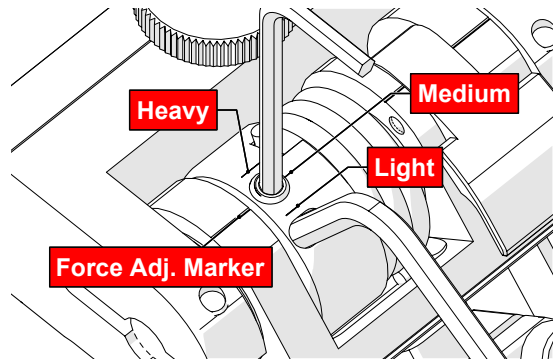

Fig. 117 - Choose desired tension
6. Gently apply pressure on the long leg of the 3 mm hex wrench until the force adjustment marker lines up with the desired spring tension. While keeping the markers in line, tighten the force adjustment screw (*Fig. 117*).